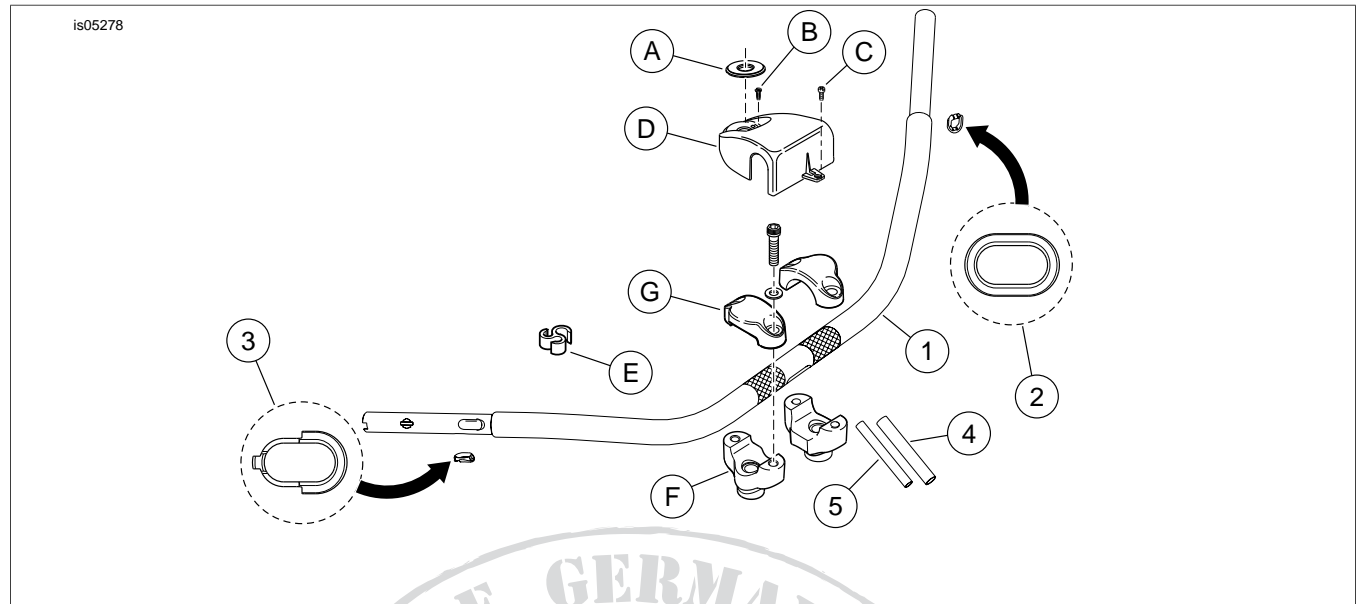

Figure 9. Service Parts for Beach Handlebar Kit (55967-08)
- a. See Figure 9. Obtain the **new** handlebar clamp cover (D, sold separately), and the wind deflector and three hex head serrated flange screws saved earlier. Fasten the cover to the wind deflector with the screws and alternately tighten to 12-18 ft-lbs (16.3-24.4 Nm).
### 4. See Figure 9.
5. See Figure 9. Position the cover onto the flange at the top of the headlamp nacelle. Install the two screws (B) to secure the handlebar clamp cover to the fork lock mechanism.
6. Press the original fork-lock label plate (A) into position on the handlebar cover.